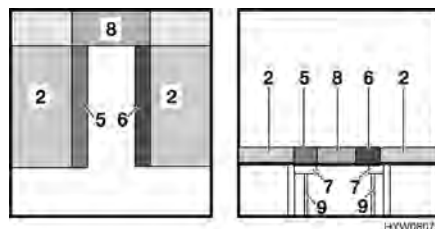

Fig. 40 After conversion into single beds
- Lay a section of the back cushion (Fig. 40,5 and 6) onto each slatted frame (Fig. 40,7).